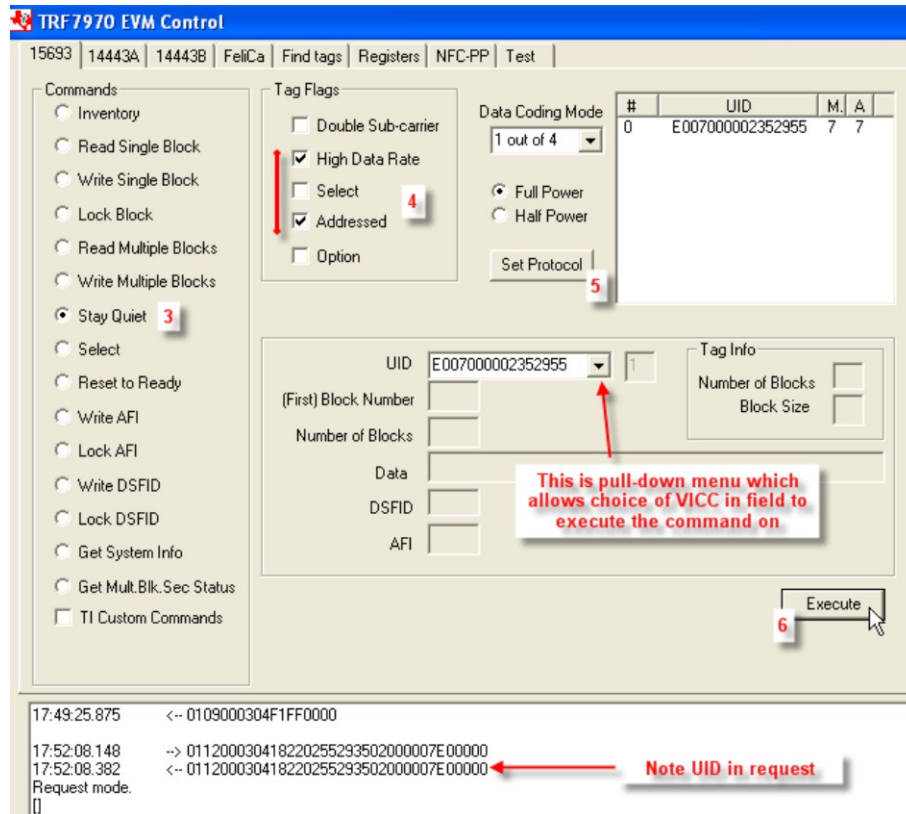

Figure 11. Stay Quiet Command Example
4. Select Tag Flags accordingly (see Figure 11 for one example)